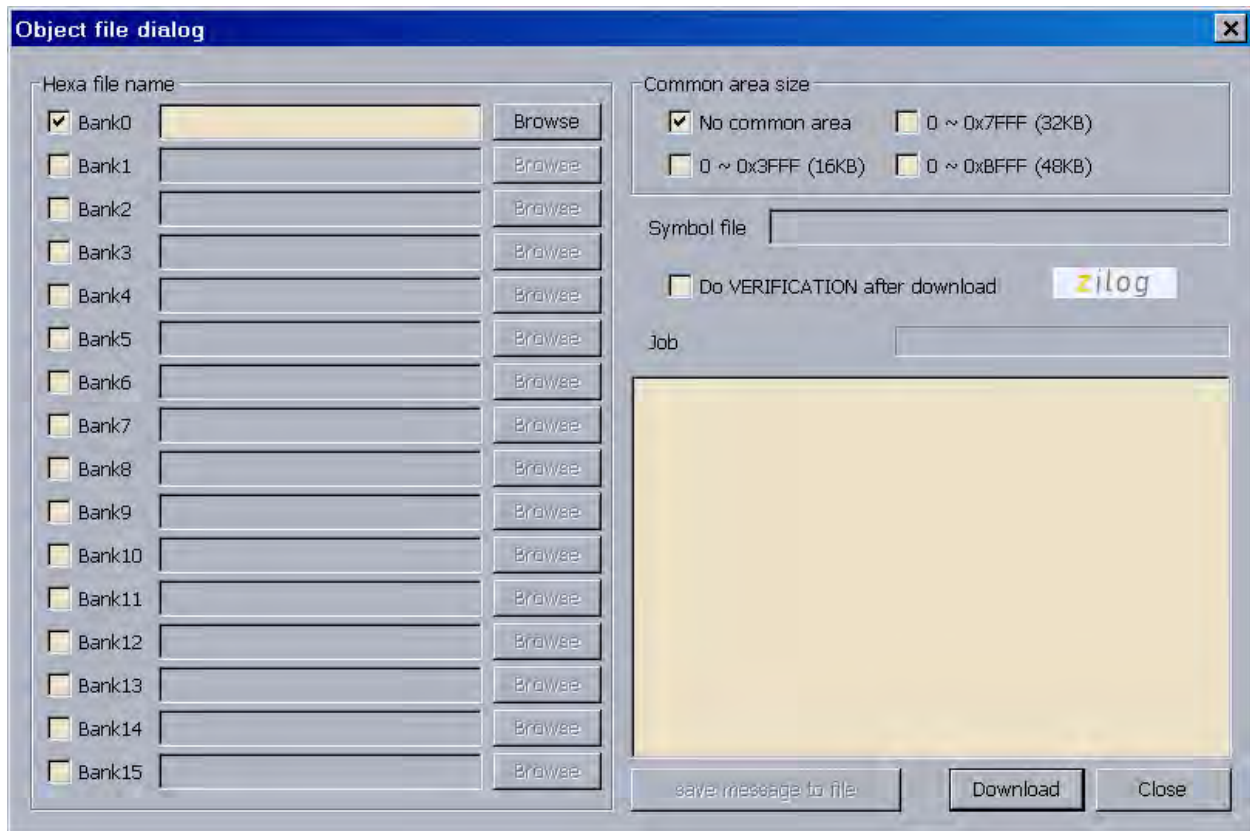

Figure 16. Object File Dialog
5. In the Debugger window, select **Load Hex** from the **File** menu to display the Object File dialog, which is shown in Figure 16.